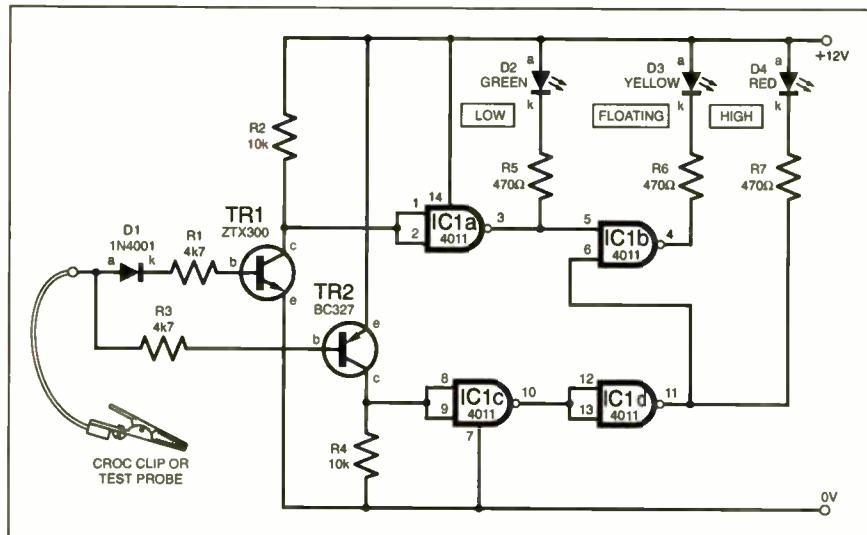

Fig.1. Circuit diagram for the Three-State Vehicle Probe.
**T**HE simple probe circuit of Fig.1 was designed for use in tracing 6V or 12V vehicle wiring. Basic probes have a crocodile clip which is connected to ground (chassis) while a single bulb or i.e.d. illuminates when the probe makes a positive connection. If the indicator does not light up, then the probe is assumed to be making a ground connection.